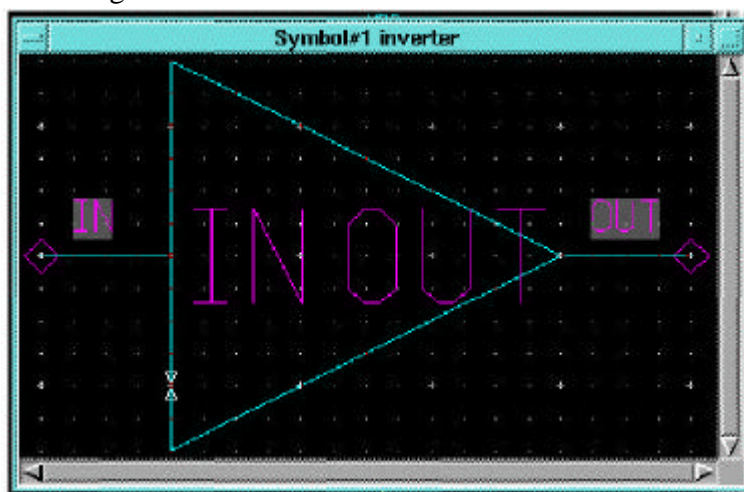

Fig 6-1. The symbol of Inverter.
3. In **General Symbol** dialog box, select **Choose Shape**, and select **Buffer**, click **OK**, and click **OK**. A **Symbol** is created automatically and is displayed in a new window as shown in Figure 6-1.